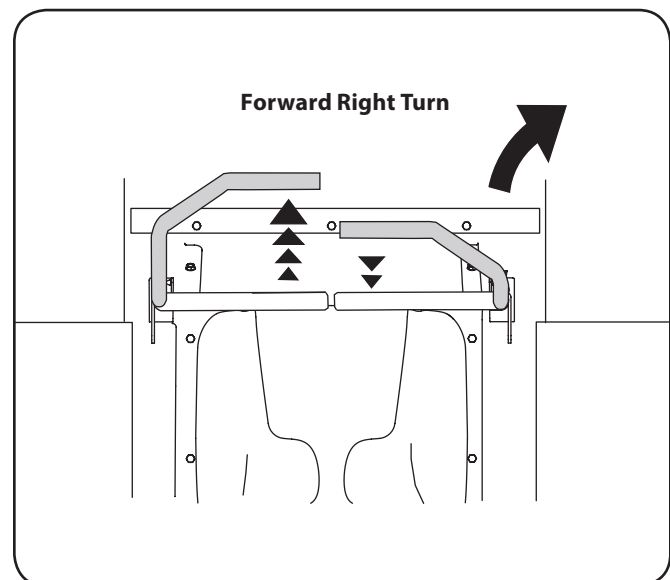

Figure 5-4
2. To turn to the right, move the right drive control lever rearward of the left lever. See Figure 5-4.